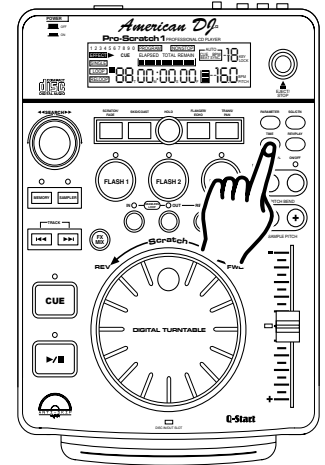

Figure 35
**DURING NORMAL PLAYBACK**, pressing the **TIME BUTTON (25)**, will change the time display information (49, 50, 56, & 57) in the LCD see figure 35. The following is a break down of the time settings and their definitions:
- 1) **ELAPSED (57)** - This describes the time in the LCD (49, 50, & 52) as the current TRACKS Elapse running time.
- 2) **REMAIN (56)** - This describes the time in the LCD (49, 50, & 52) as the current TRACKS remaining running time.
- 3) **TOTAL REMAIN (56)** - This describes the time in the LCD (49, 50, & 52) as the disc total remaining running time.
**TIME BAR INDICATOR** - Details the time defined in the **TIME METER (49 & 50)** as a visual bar icon. As with the **TIME METER (49 & 50)** this bar is also dependent on the selected time function [**TOTAL REMAIN (56)**, **REMAIN (56)** OR **ELAPSE (57)**]. This bar will begin to flash when a track is ending regardless of which time function you are in. Use the flashing bar as a visual reminder that a track is ending.